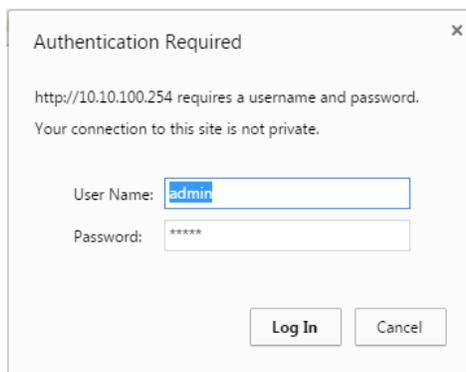

Figure 1: login page
2) Once your computer is connected to the “TBMon” access point, open your browser to "http://10.10.100.254/index_en.html". A login window similar to Figure 1 below will open, asking you for a login and password. As shipped, the login is “admin” and the password is “admin”. This can be changed later.